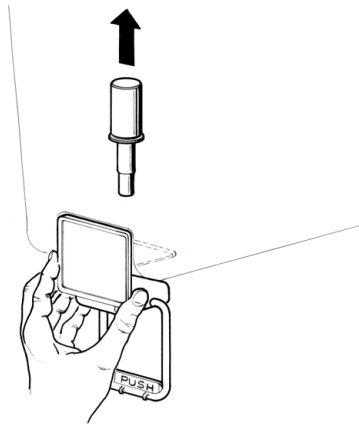

figure 4
6. Gravity faucet: extract the piston and then remove the dispensing handle (see figure 4).